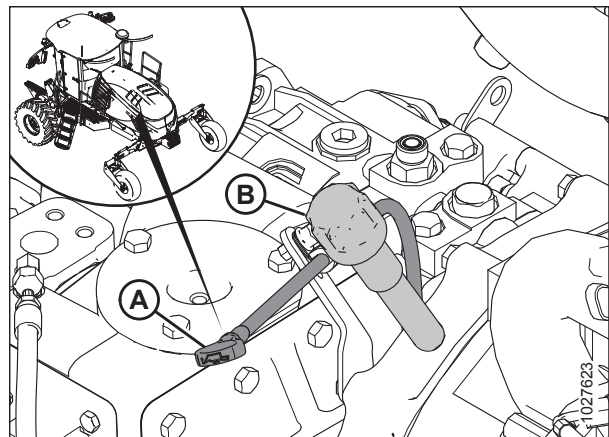

Figure 4.18: Gearbox Lubricant Dipstick
2. If the lubricant level is at or below ADD mark (A) on the dipstick, remove the breather cap ([B] in Figure 4.18, page 102) and add gearbox lubricant. Insert the dipstick again to check the lubricant level. Repeat this process until the lubricant level is between ADD mark (A) and FULL mark (B) on the dipstick.